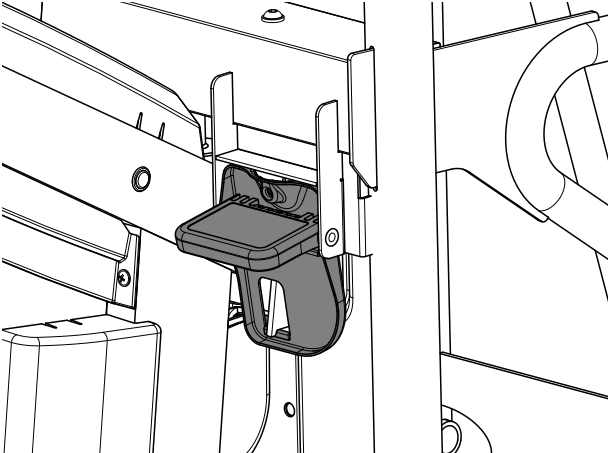

Figure 2-7. Platform latch shown engaged
10. **Platform Assembly and Gate** - Check mounting pins are not loose; platform railing is undamaged; platform latch is engaged on carriage (Figure 2-7.); self-closing entry gates are in proper working order; no cracks or corrosion visible.